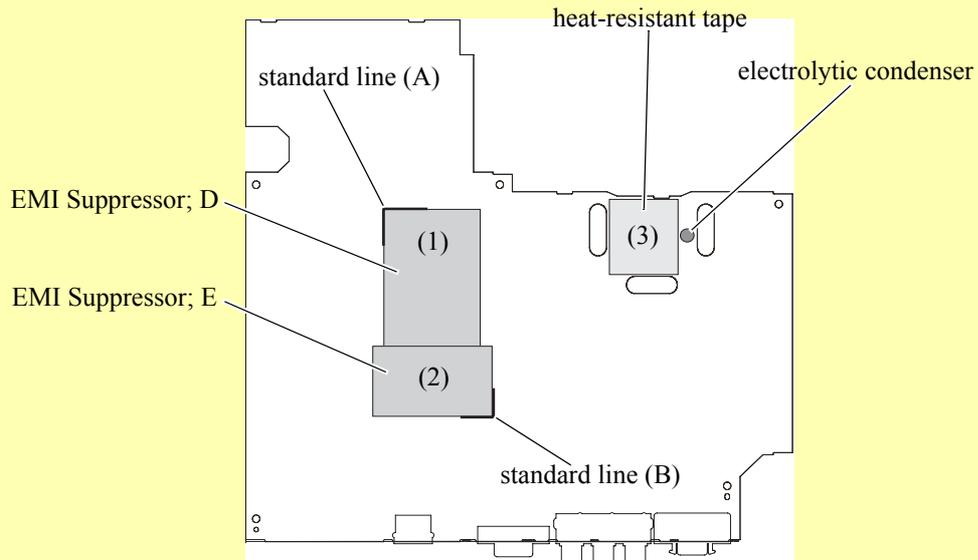

Figure 4-25.
- 1). Attach the EMI Suppressor; D on the area (1) while aligning it along the standard line (A) as shown in Figure 4-25.
- 2). Attach the EMI Suppressor; E on the area (2) while aligning it along the standard line (B) as shown in Figure 4-25.
- 3). Attach heat-resistant tape on the area (3) as shown in Figure 4-25. Do not cover the electrolytic condenser with the tape when attaching it.